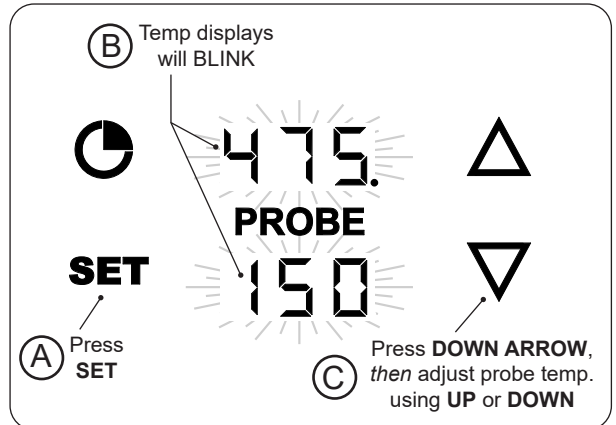

Fig. 32-2 Set probe temperature
1. With the thermometer/thermostat **on** and the meat probe plugged in, press the **SET** button once. The grilling and probe displays will blink. (While blinking, either area can be selected to enter their settings.) See Fig. 32-2, A and B.
2. Press the **DOWN ARROW** to select the probe settings, then you may use the up or down arrows to set the desired temp (Fig. 32-2, C).